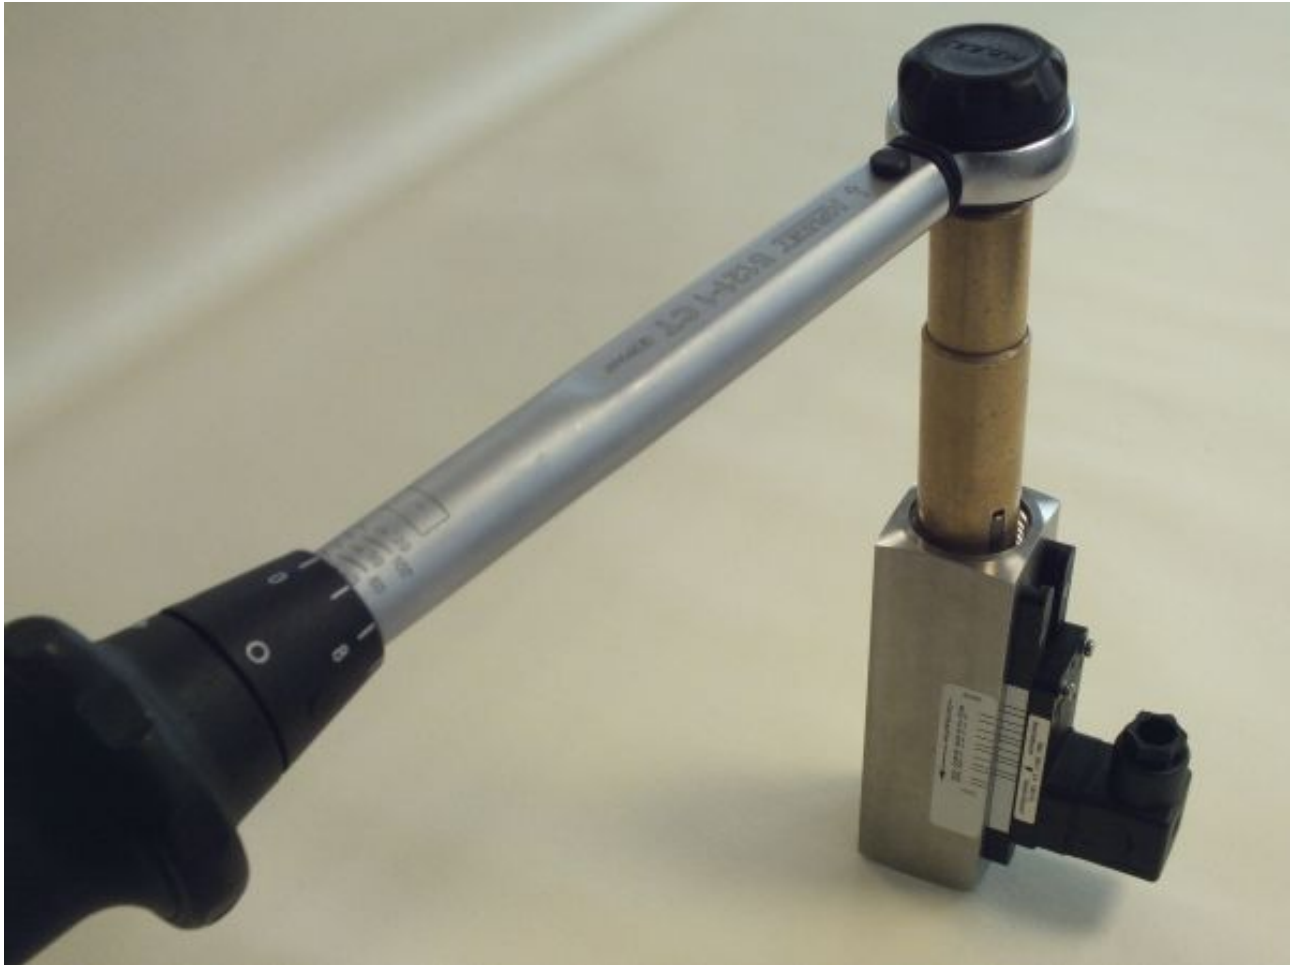

Fig. 63: Seat threaded ring (inlet)
5. ➔ Lightly seat the threaded ring (inlet) with the aid of the threaded ring insertion tool and tighten with a torque wrench (*Fig. 63*), observing the proper torque (➔ *Chapter 11.1 "Tightening torque of screws" on page 106*)